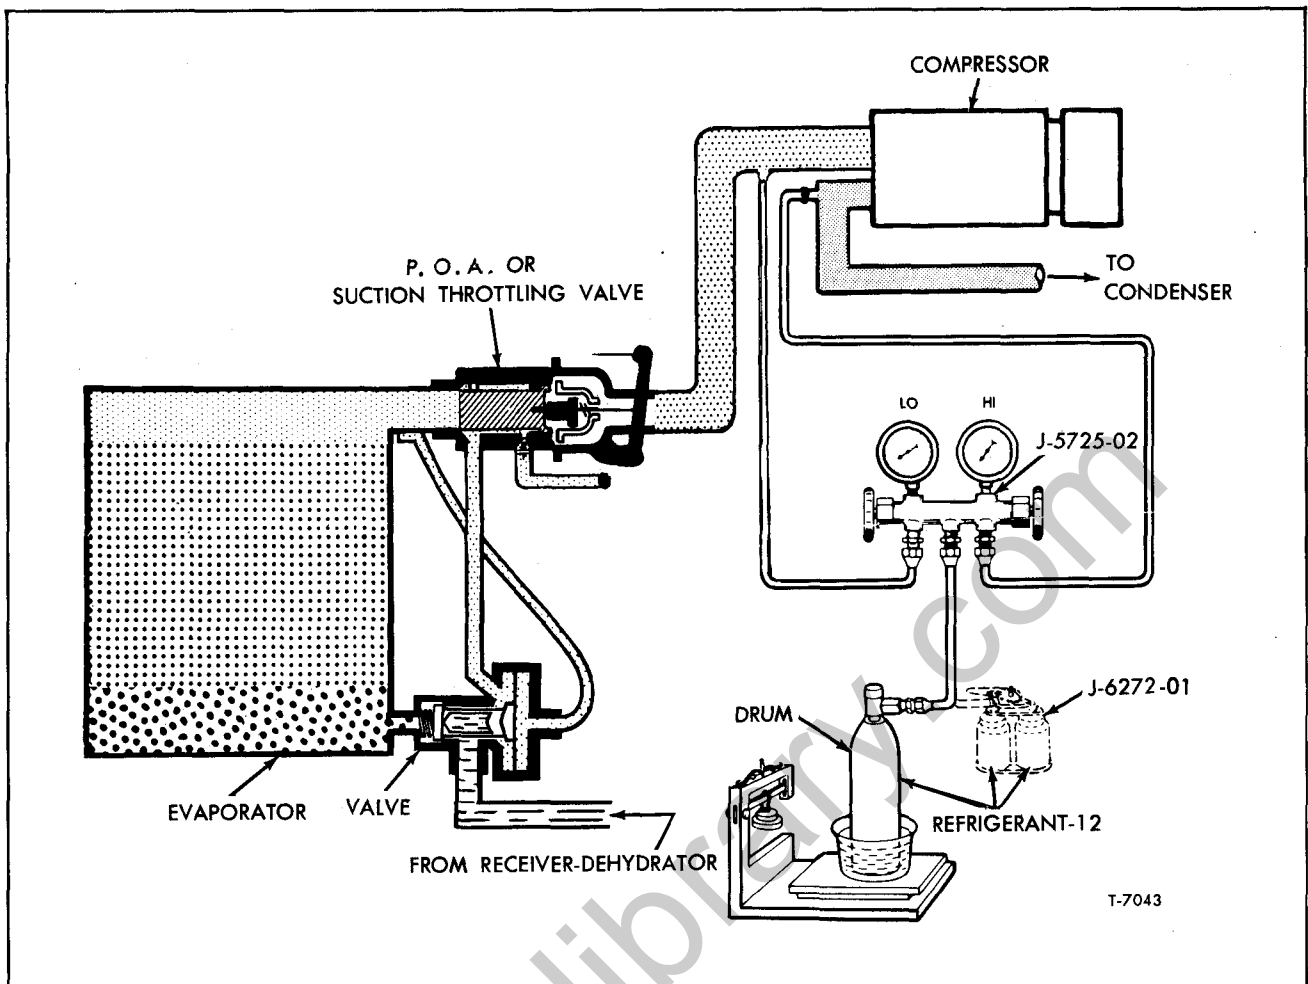

Figure 23—Hook Up of Gauges and Charging Equipment
1. Connect center flexible line of gauge set to refrigerant drum (fig. 23).
2. Place refrigerant drum in a pail of water which has been heated to a maximum of 125°F. (fig. 23).